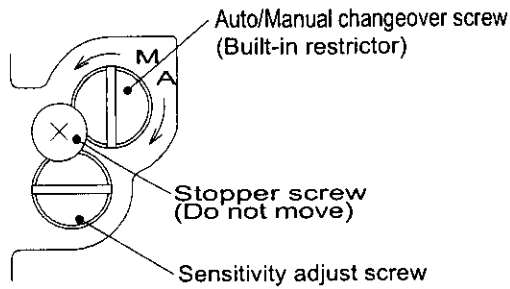

Fig.17 Pilot valve
- (1) To operate the diaphragm valve manually, turn the Auto/Manual changeover screw of pilot valve towards M. The supply pressure and OUT1 output are conducted and the stroke can be adjusted by using the supply pressure setting reducing valve. (Refer to fig.17 Pilot valve)
- (2) To operate based on the input current, tighten the Auto/Manual changeover screw towards A. The screw is tightened up in the A direction when the positioner is shipped from our plant. (Refer to fig.17 Pilot valve)